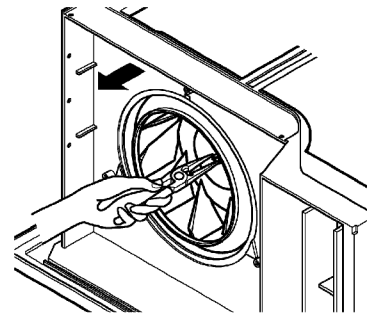

Figure 19
9. Pull out the hook of orifice by pushing the tabs and remove it. (See Figure 19)